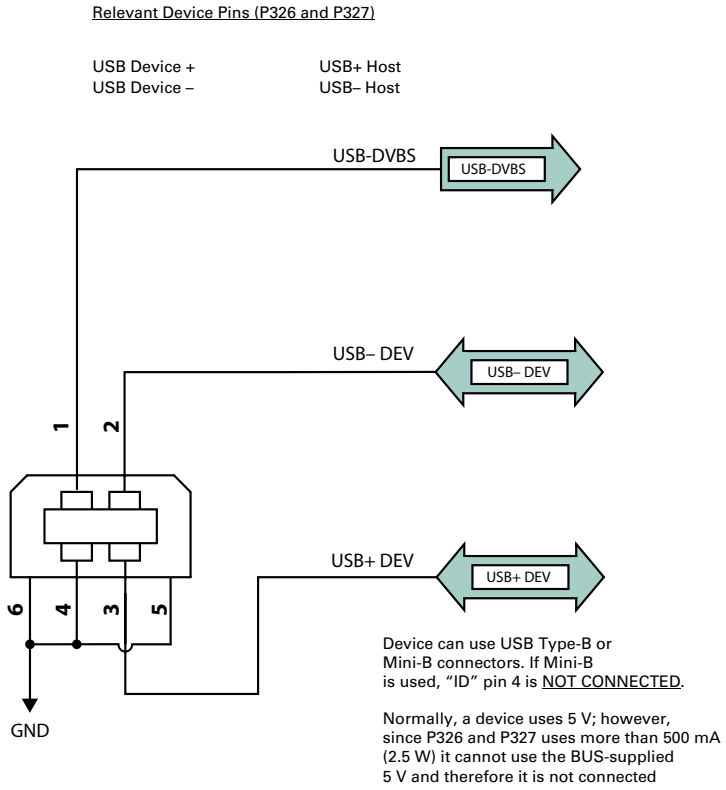

Figure 2-6: P326 and P327 USB device design example
- USB device port (data communication) shown in Figure 2-6 on page 16 serves as a high speed data communications port, such as for a PC